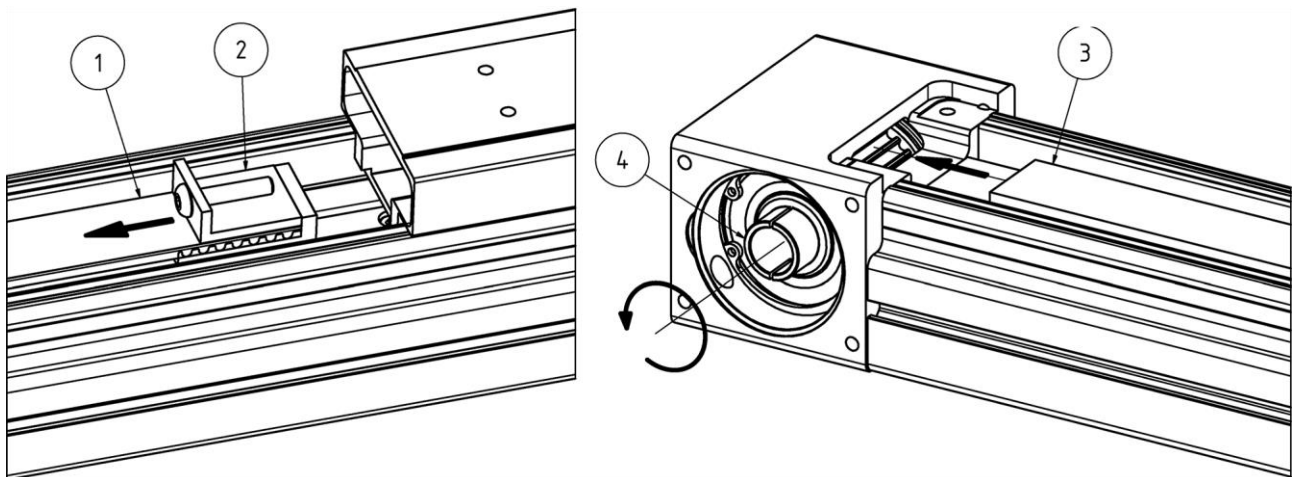

Figure 15: Toothed belt exchange
- ◆ Loosen screws of the belt tensioning element Figure 15, Pos. 2) on both sides, carefully pull out and put aside the toothed belt with the belt tensioning element (Figure 15, Pos. 1) of the carriage (depending on the design, the belt tensioning element is one-piece or two-piece).
- ◆ Insert the replacement toothed belt (Figure 15, Pos. 3) into the upper opening of one of the return stations and push the toothed belt around the toothed pulley (Figure 15, Pos. 4) . In order to facilitate installation, turn pulley in pushing direction.
- ◆ Insert one toothed belt end into the toothed belt tensioning element (Figure 15, Pos. 2) and screw it in on one side of the carriage.